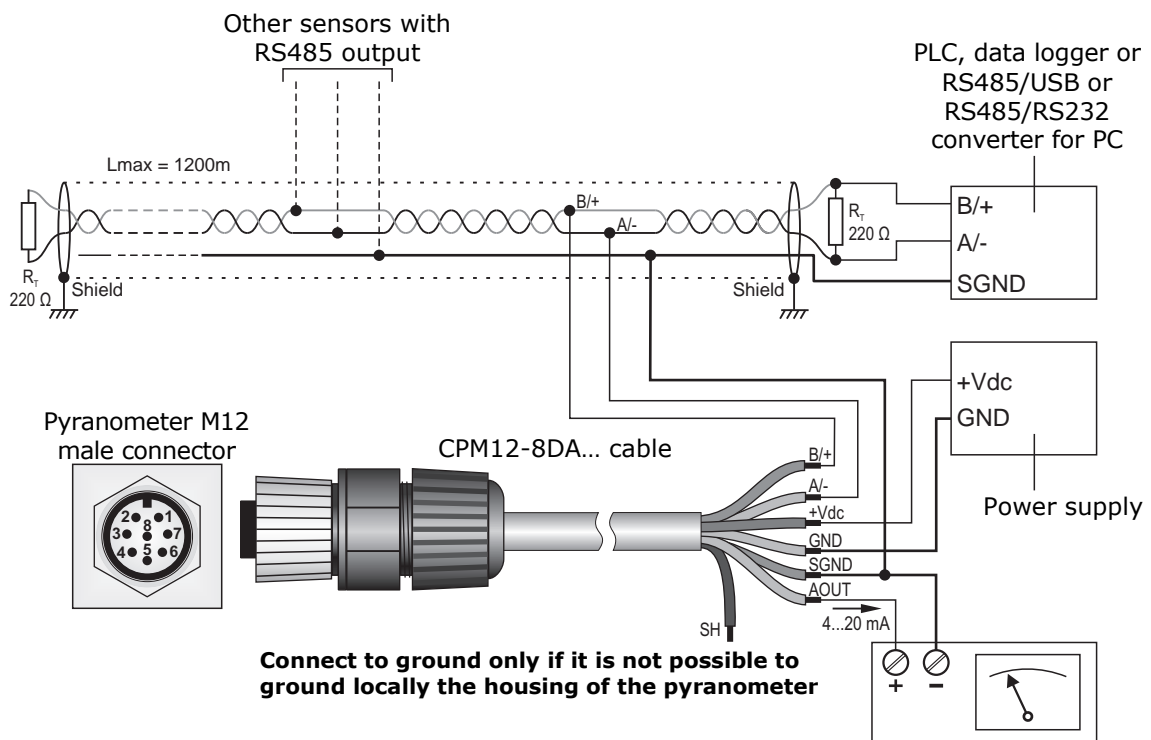

Fig. 4.6: LPPYRA12ACS[4] connections
- One **4...20 mA** output, requiring **10...30 Vdc** external power supply. It is to be connected to a power supply and an instrument with 4...20 mA input as shown in fig. 4.6. The load resistance of the instrument reading the signal must be $\leq 500 \Omega$.
- One **RS485 Modbus-RTU** output, requiring **5...30 Vdc** external power supply. It is to be connected to a power supply and to a PLC, a data logger or a RS485/USB or RS485/RS232 converter for PC as shown in fig. 4.6. The RS485 output is not isolated.